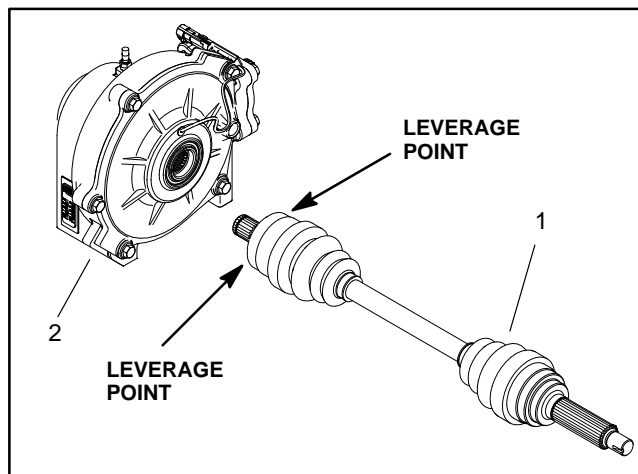

Figure 2
2. For Constant velocity (CV) axle to be removed, remove wheel assembly, brake caliper and brake rotor (see Brake System Disassembly in Chapter 7 – Chassis in this manual).
6. Use two small pry bars (180 degrees apart) to leverage the CV axle out of the differential. Use even pressure on both pry bars (Fig. 2).